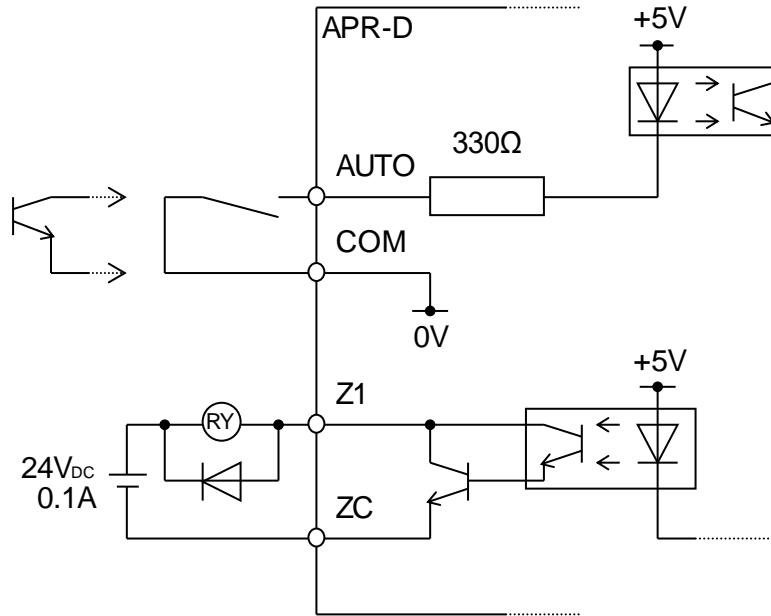

Fig.7-5 Equivalent circuit for AUTO-COM, Z1-ZC
- Note4: Fig.7-5 is equivalent circuit of "Auto/Manual changeover" and "Alarm output".